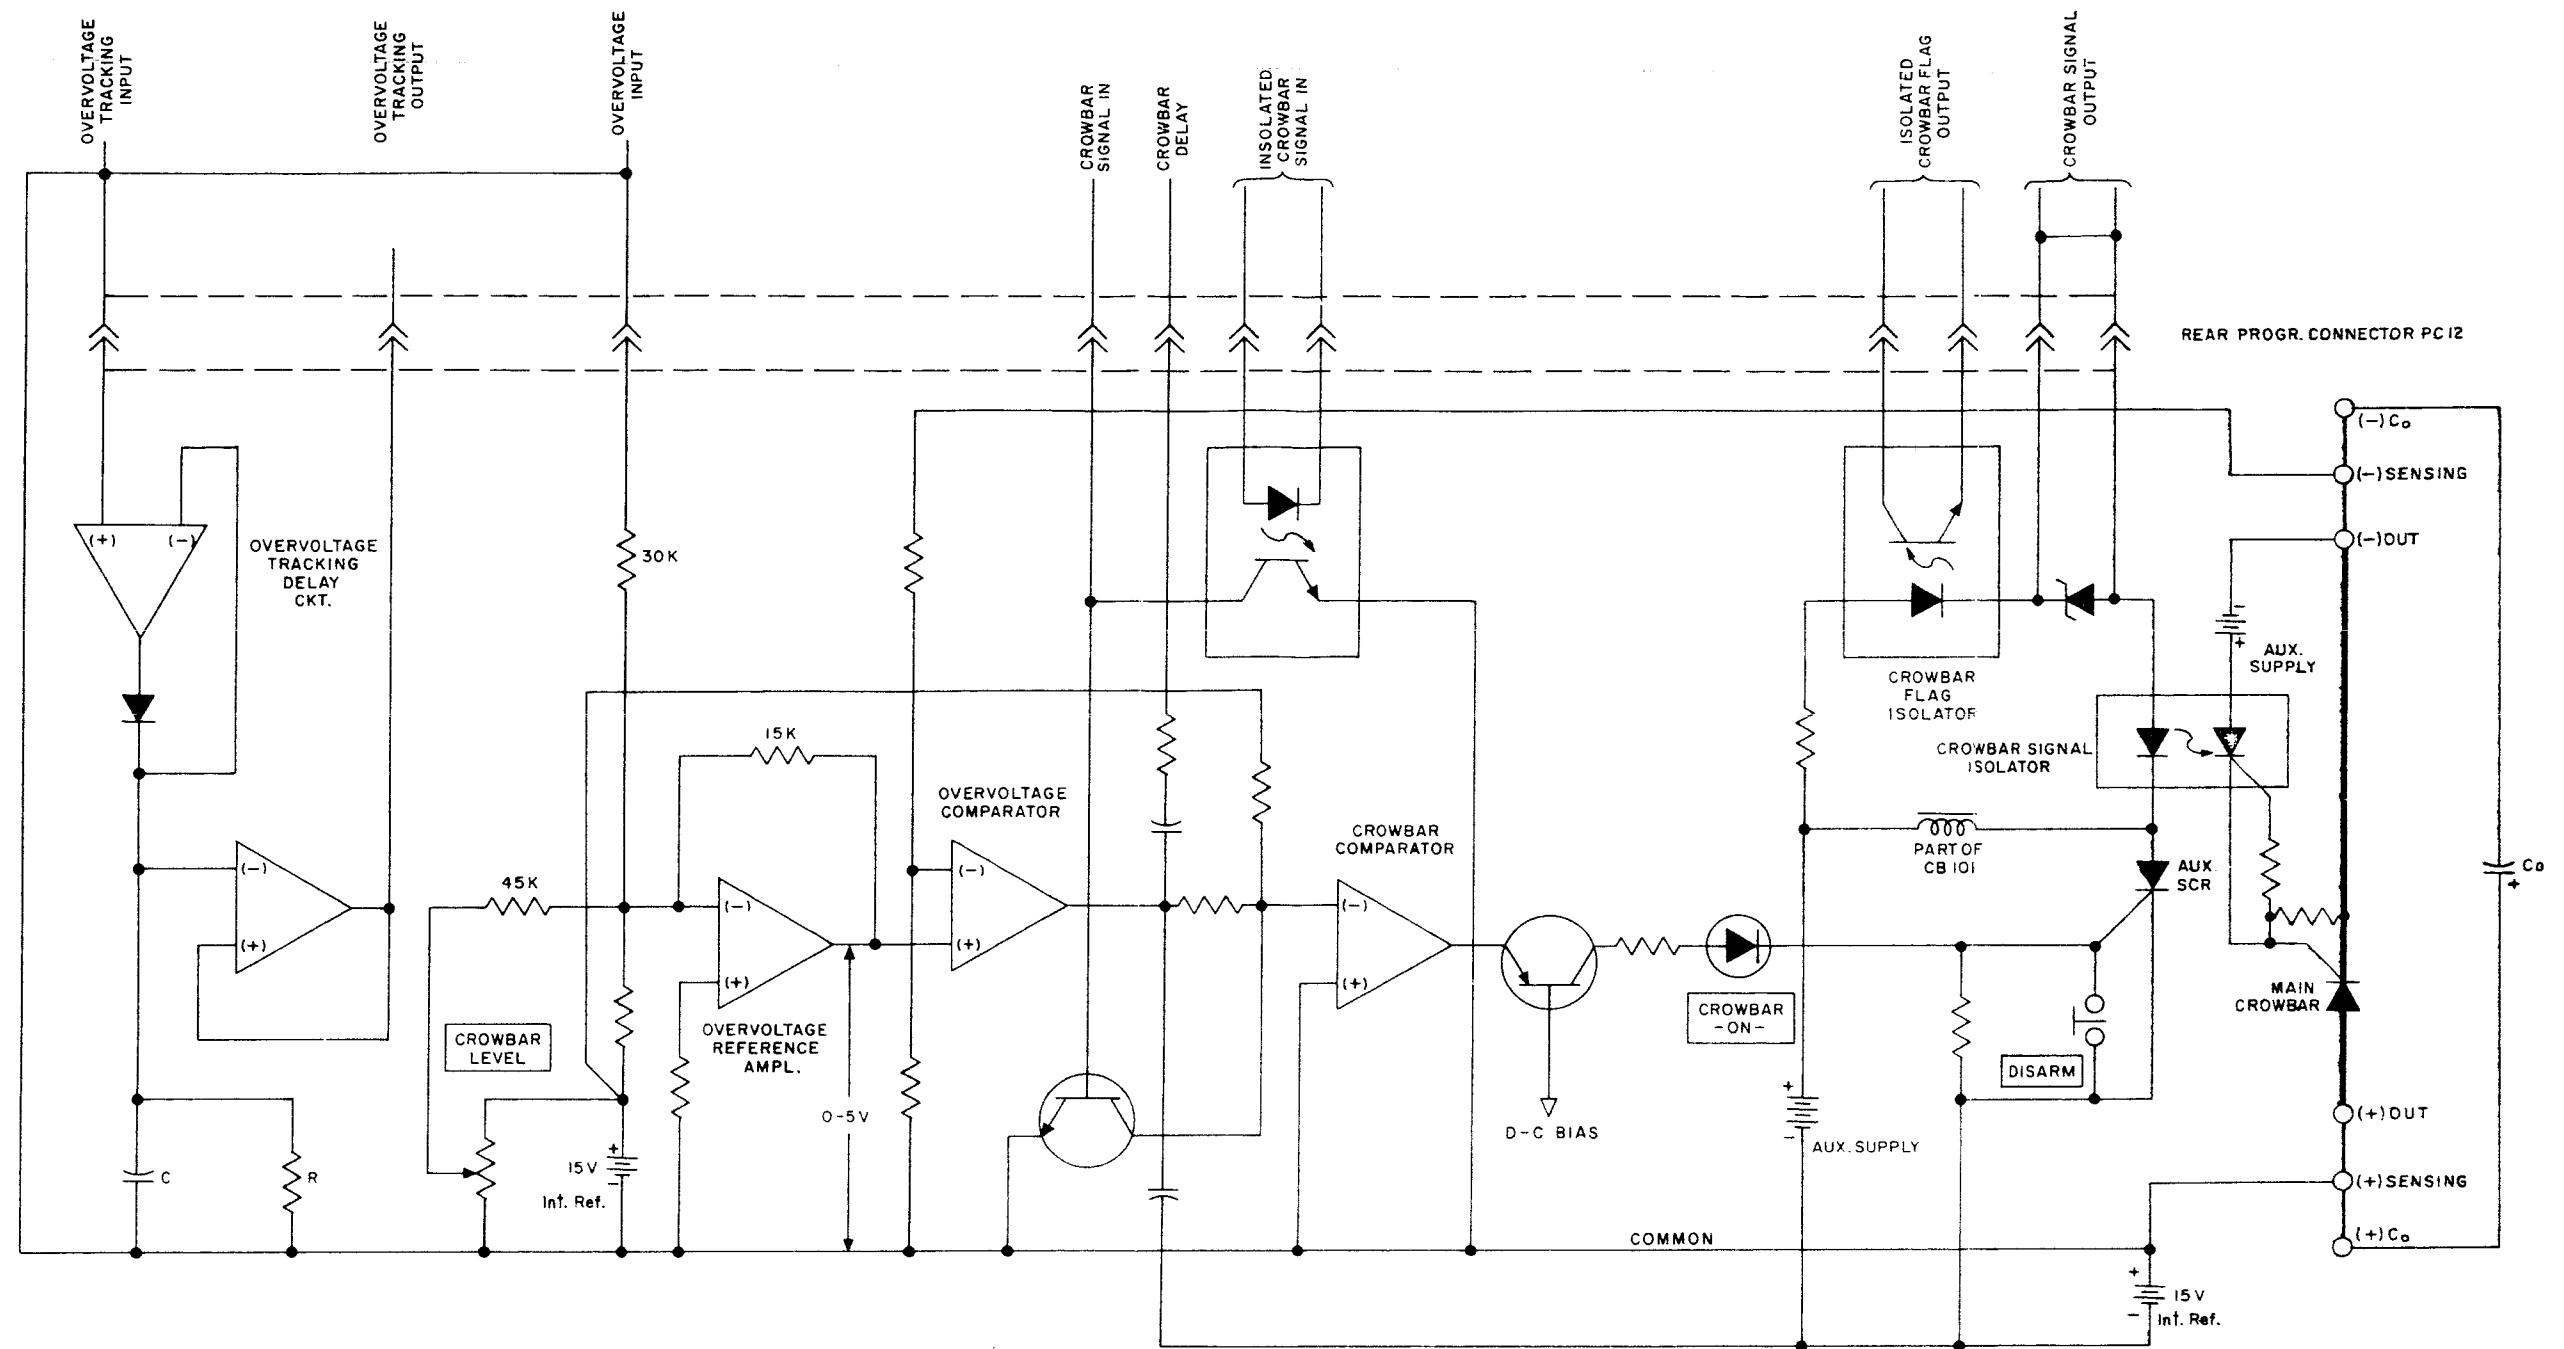

FIG. 4-7 PROGRAMMABLE OVERVOLTAGE PROTECTOR AND CROWBAR CIRCUIT, SIMPLIFIED SCHEMATIC DIAGRAM
**4-12 PROGRAMMABLE OVERVOLTAGE PROTECTOR, SIMPLIFIED DIAGRAM DISCUSSION (REFER TO THE "FOLD-OUT" DRAWING FIG. 4-7 AT THE END OF THIS SECTION).**